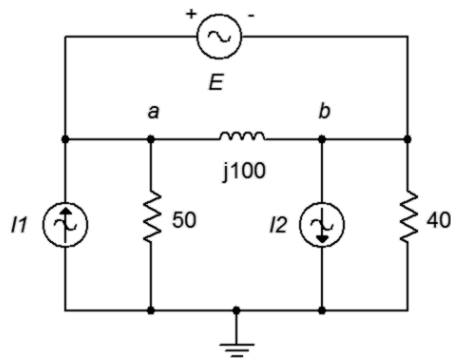

Figure 6.35
70. Given the circuit in Figure 6.35, determine v_{ab} . $I1 = 1.2\angle 0^\circ$, $I2 = 2\angle 120^\circ$, $E = 75\angle 0^\circ$.